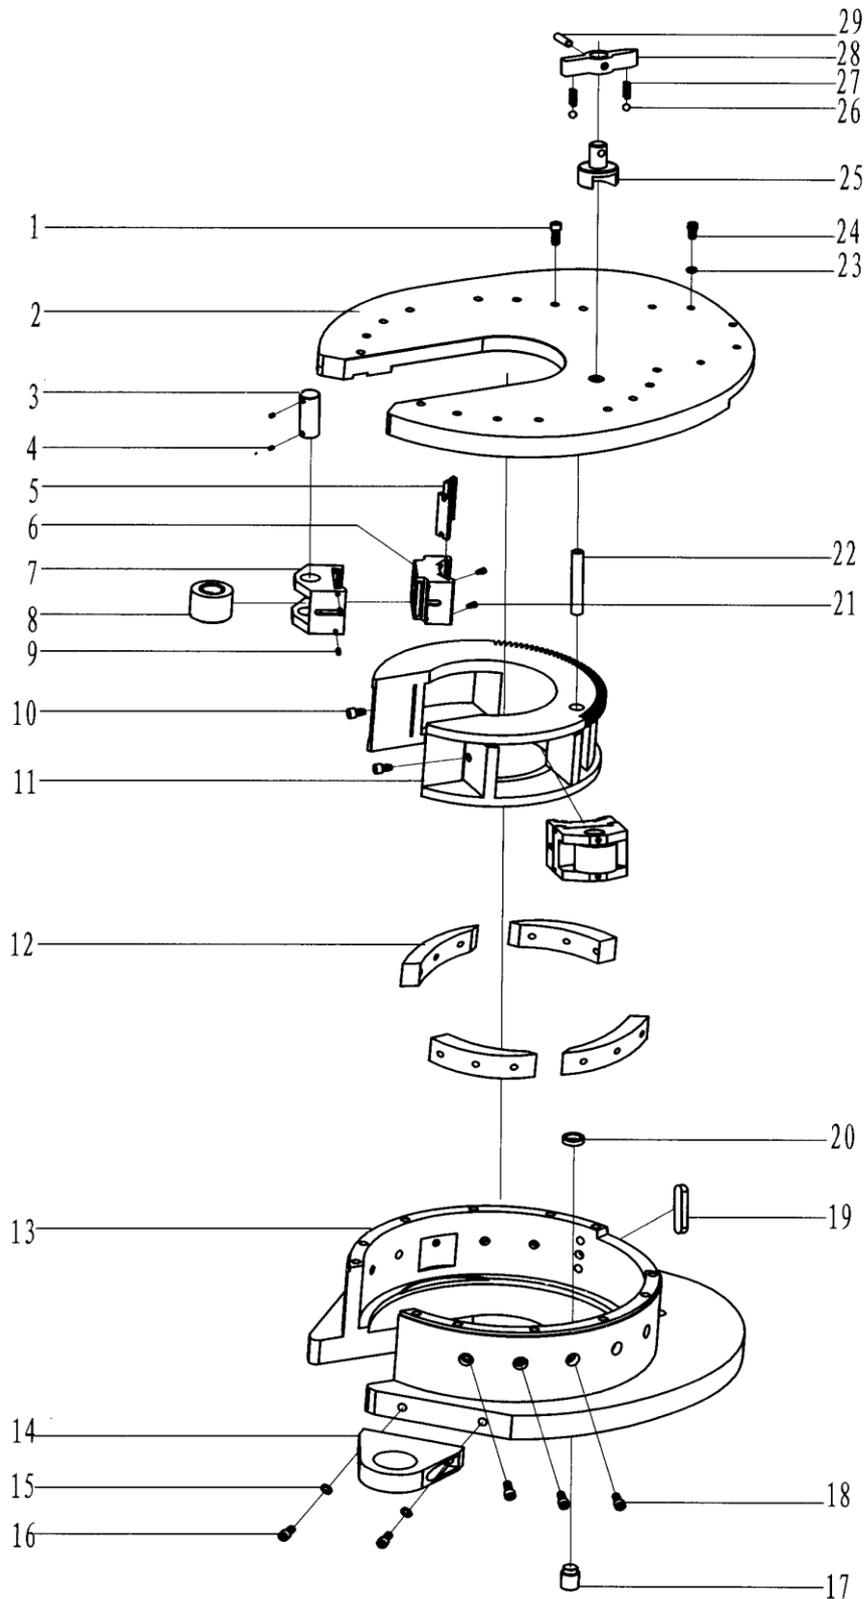

Fig11. Backup tong head assembly
7.3.2 Backup tong tail assembly (Fig11. Table11)